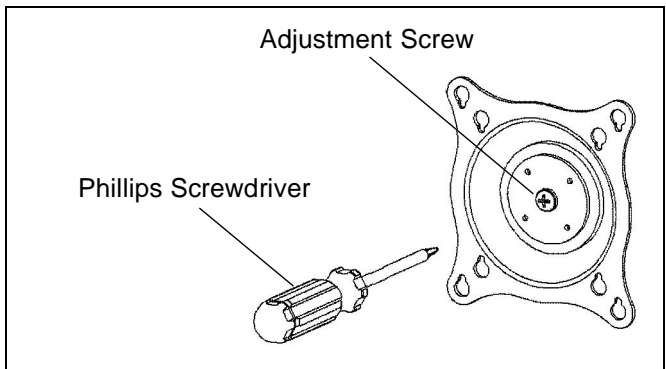

Figure 14
2. Using Phillips screwdriver, slightly loosen or tighten the adjustment screw as necessary (See Figure 14).